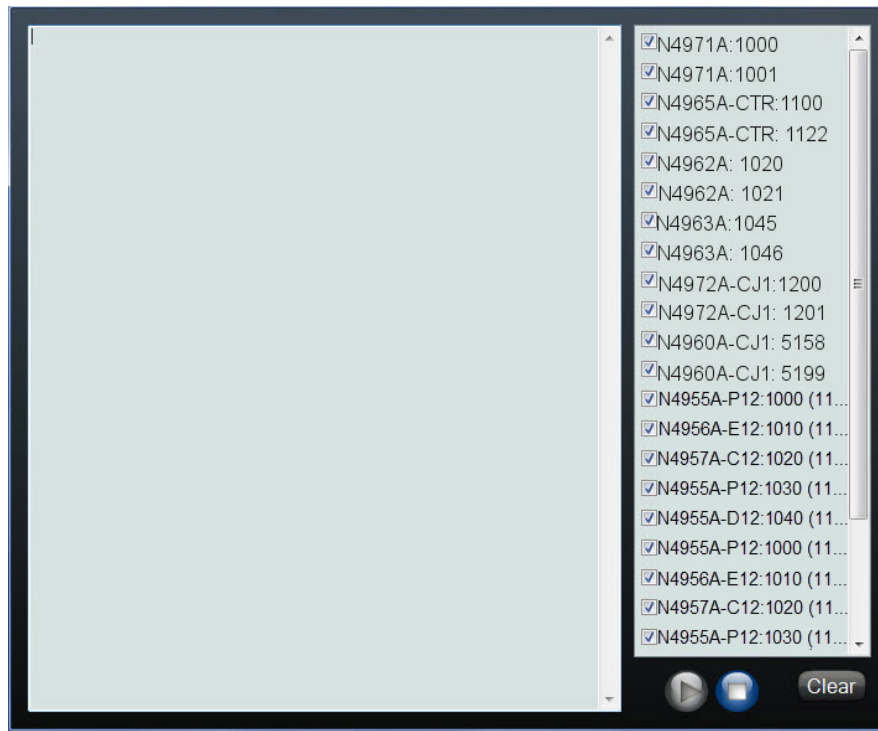

Figure 111. Enabling command viewing
1. In the main menu, click on the **Tools** menu then select **Command Viewer**. Figure 111 is an example of the Command Viewer screen.